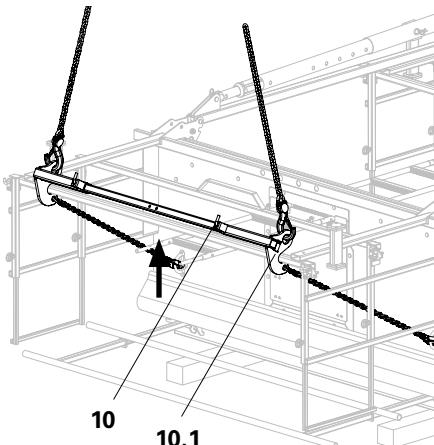

Fig. A11.03
With the Erection Device MXP, PERI MAXIMO and PERI TRIO system panel units with heights from  $H = 5.40 \text{ m} - 9.00 \text{ m}$  can be erected. (Fig. A11.03)
1. Lift the Erection Device MXP (10) with the crane until the connecting lever (10.1) connects around the guardrail post. (Fig. A11.03)